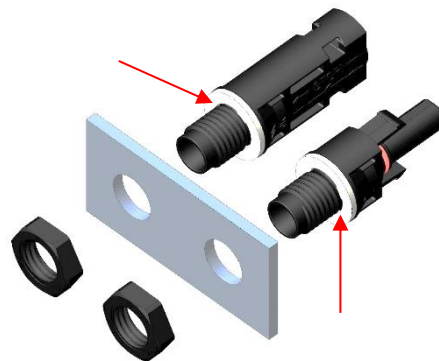

Figure 16
- ✧ 在公/母面板连接器插入钻孔前，请确保已安装防水垫圈，且防水垫圈安装在墙板的外侧 (如图 16)。
Please ensure seal gasket is located on the insulation before mounting the plastic insulations through the bore. In mounting position, the seal gasket must lie even on the outside of the mounting surface (Fig.16).